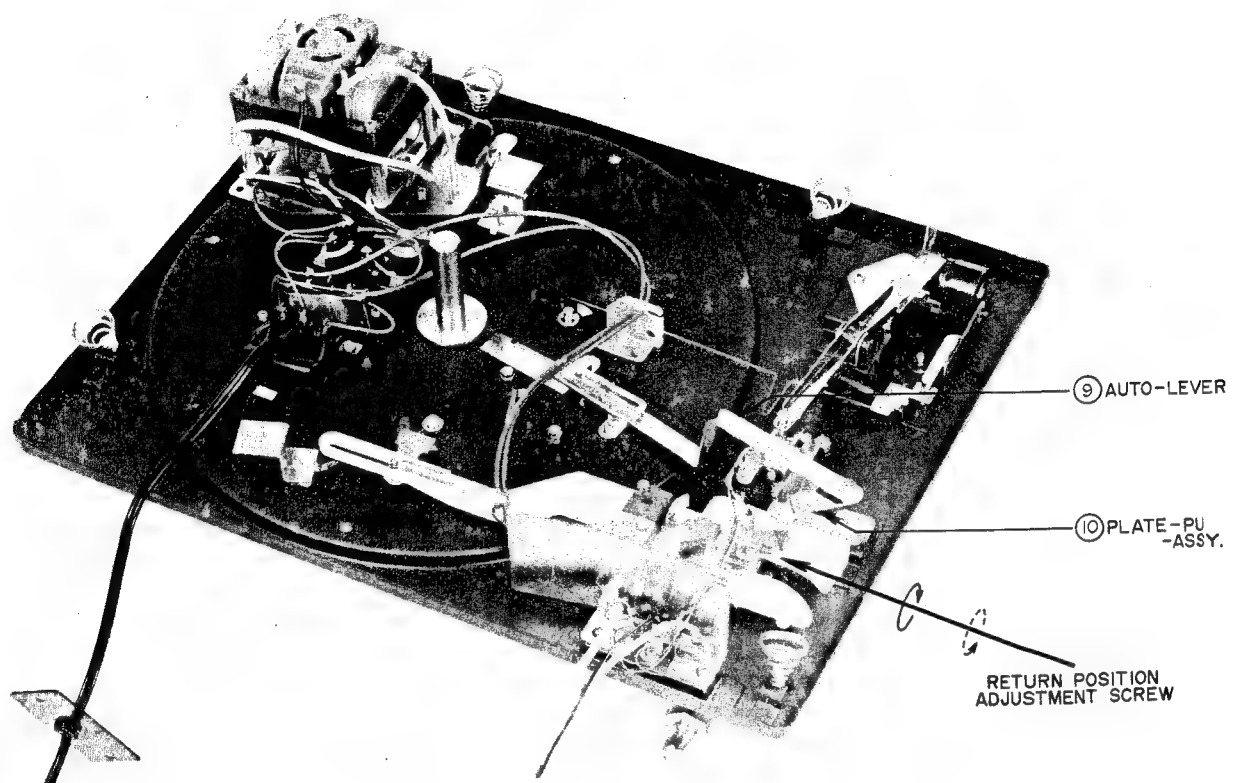
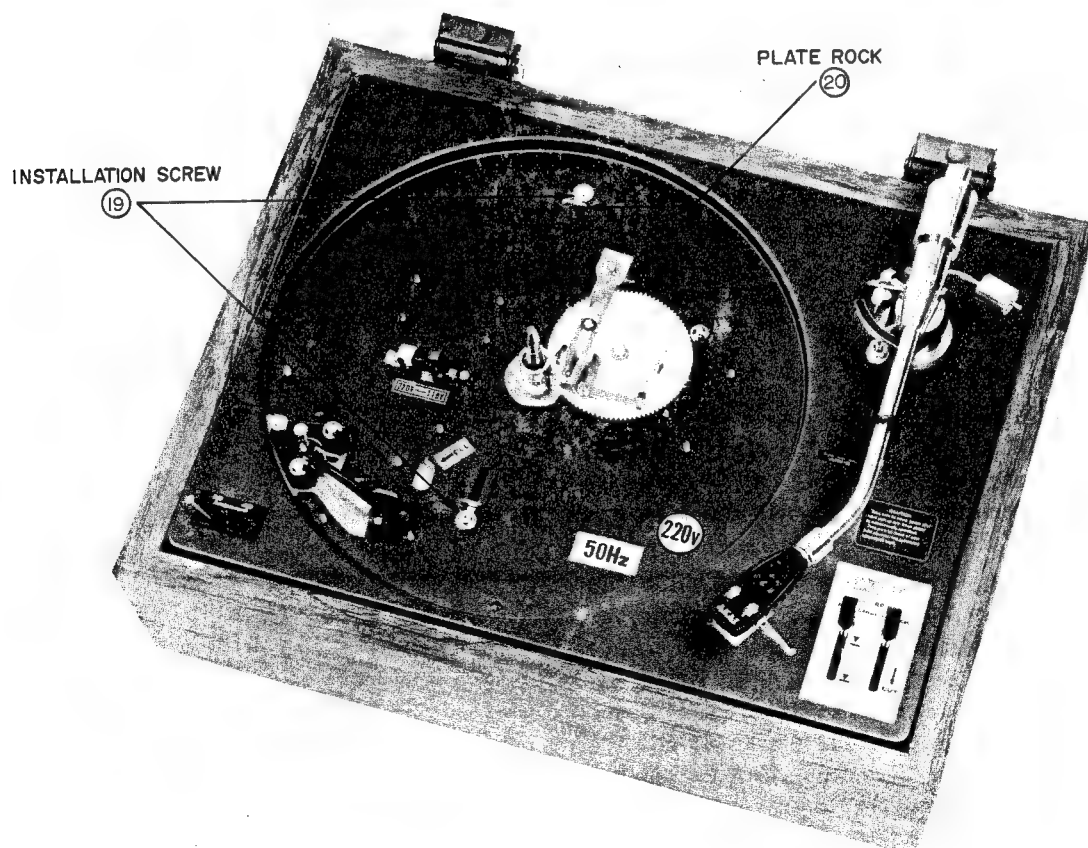

Fig. 14
Fig. 15
Remove turntable and loosen the plate holder-metal fitting (PLATE LOCK (20)). This can be accomplished after loosening the two installation screws (19) on the table mount 2 or 3 turns. (Fig. 15) Because this separates the table mount and the cabinet by a considerable degree, the return position adjustment screw (18) located on the reverse side of the PU Arm becomes accessible. Adjust with plus driver (Fig. 14) As shown in Fig. 14 when the adjustment screw is turned to the right (in direction of solid line), the return position is slowed (inside circumference approach) and when the adjustment screw is turned to the left (in direction of broken line), the return position is speeded up (outside circumference approach). (When the adjustment screw is turned 1 revolution, the position of the PU Arm stylus tip is changed by about 8 m/m).